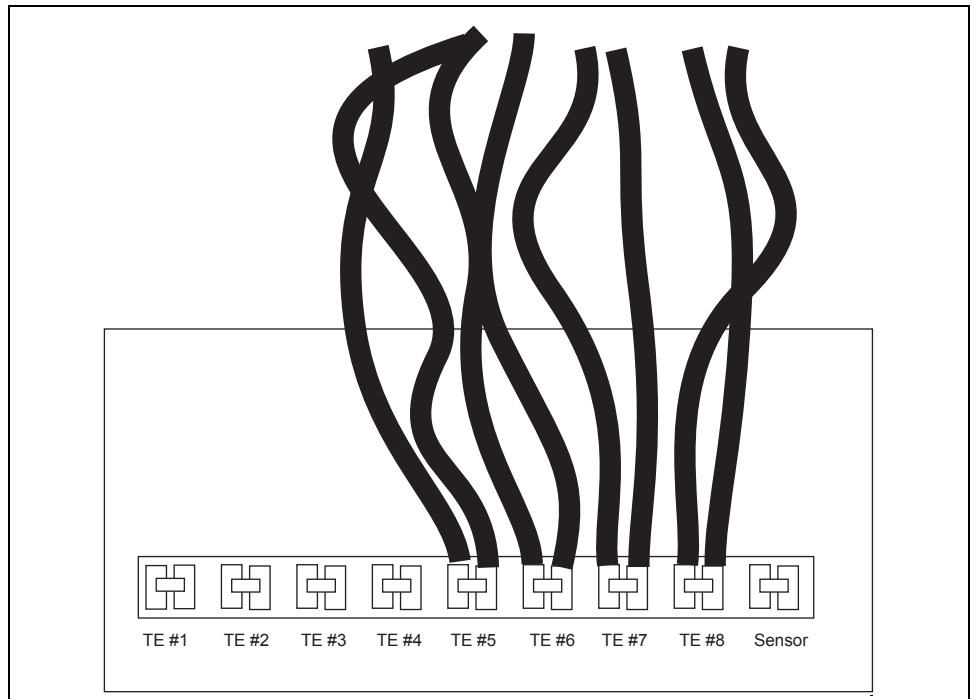
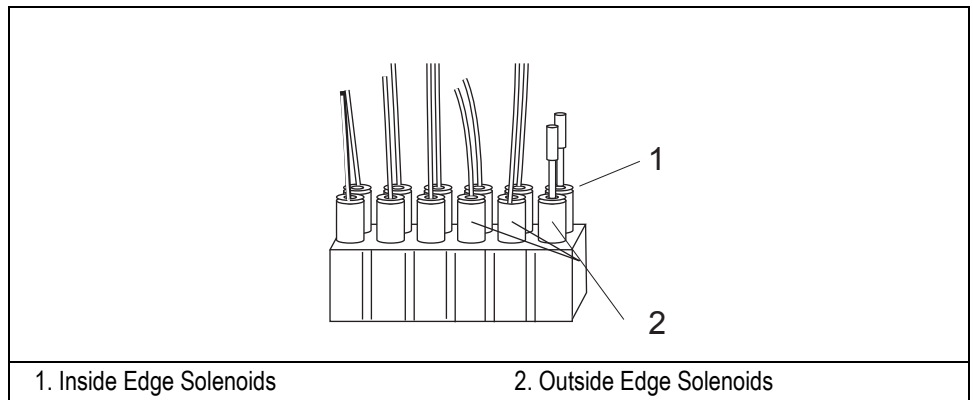

Figure 2-2. Timed Event (TE) Output Jacks
Figure 2-4. Solenoid Manifold Edges
4. Connect the cable from the solenoid valve (Figure 2-4) to the proper timed event output jack (Figure 2-2) located in the lower rear inside corner of the valve compartment.
Valve 1 is attached to timed event #8 (TE8), Valve 2 is attached to timed event #7 (TE7), and so forth (Figure 2-2).
3. Place the other end of the tubing into the valve solenoid fitting located on the outside edge (Figure 2-4) of the solenoid by pushing the tubing firmly into the fitting. It should automatically seal in place.